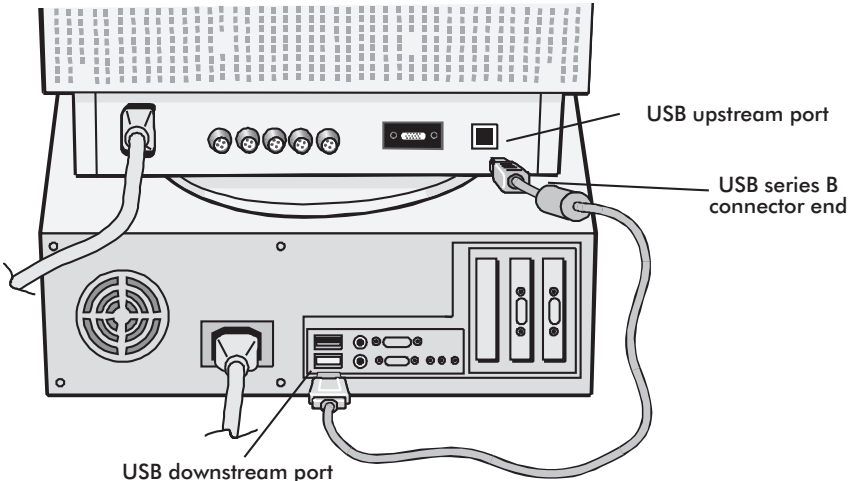

Figure 1
1. Using the supplied USB cable, connect the USB Series B connector end to the USB upstream port on the monitor (Figure 1).
2. Connect the other end of the supplied cable to the USB downstream port on the computer (or to a USB Hub attached to the computer) (Figure 1).